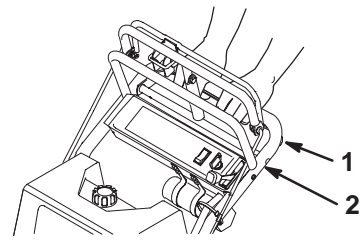

Figure 21
4. At the same time engage lower control bar and lift up on handle (Figures 21 and 22).